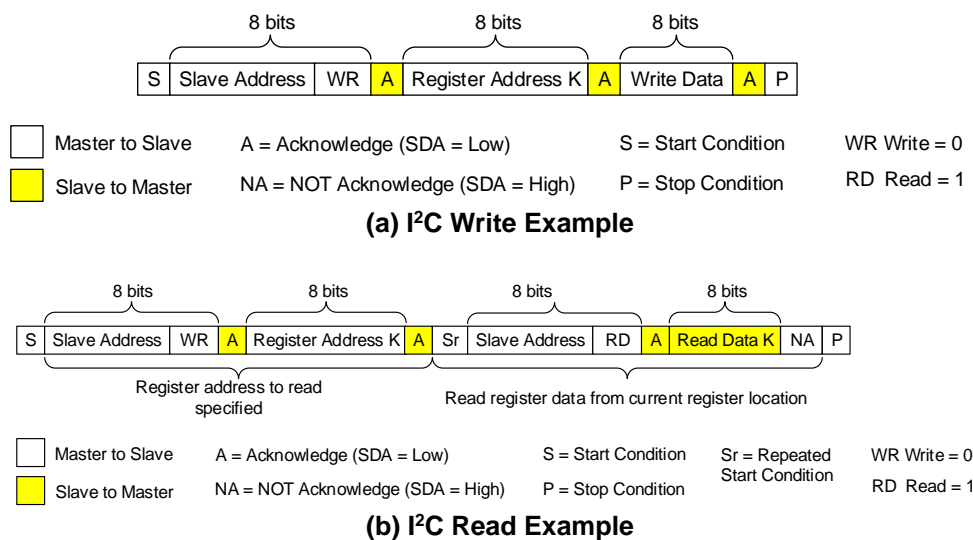

**Figure 9: Complete Data Transfer**
Figure 9 shows the format that data transfers follow. A start command (S) sends a slave address. This address is 7 bits long, followed by an 8th data direction bit (R/W). A 0 indicates a transmission (write), and a 1 indicates a request for data (read). A data transfer is always terminated by a stop command (P), generated by the master. However, if a master still wishes to communicate on the bus, it can generate a repeated start condition (Sr) and address another slave without first generating a stop condition.